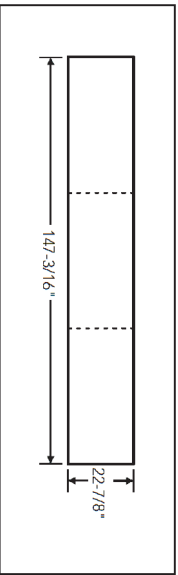

Figure 3a
- To determine the required ceiling opening for a continuous row of fixtures, follow the guidelines below and review Figures 3a-3d.